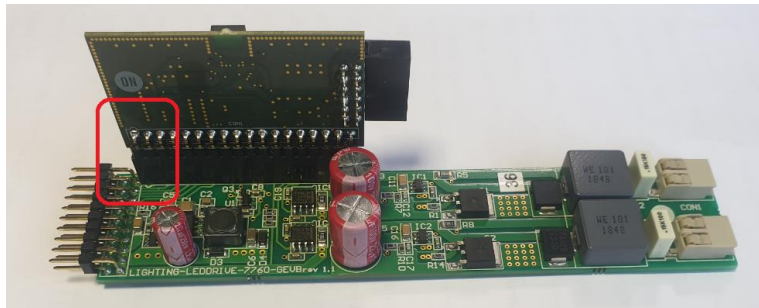

Figure 2. Connecting the Bluetooth Low Energy Connectivity Module to the LED driver module
1. Connect the Bluetooth Low Energy connectivity module to the LED driver module as shown in **Figure 2** below.